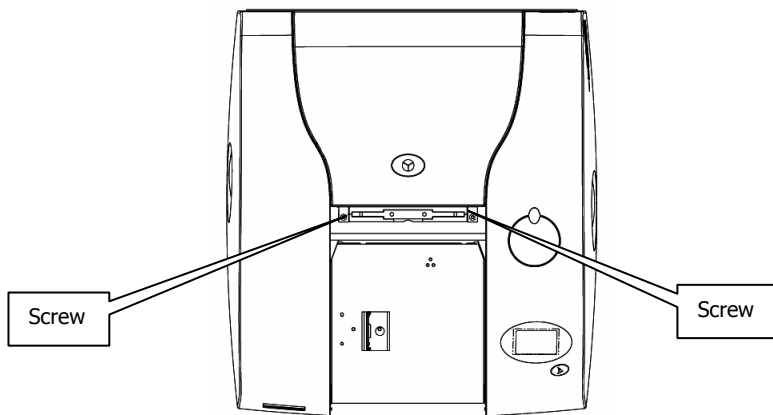

Figure 20 Captive screws securing desiccant cover
3. Undo the two captive screws securing the desiccant cover (Figure 20).